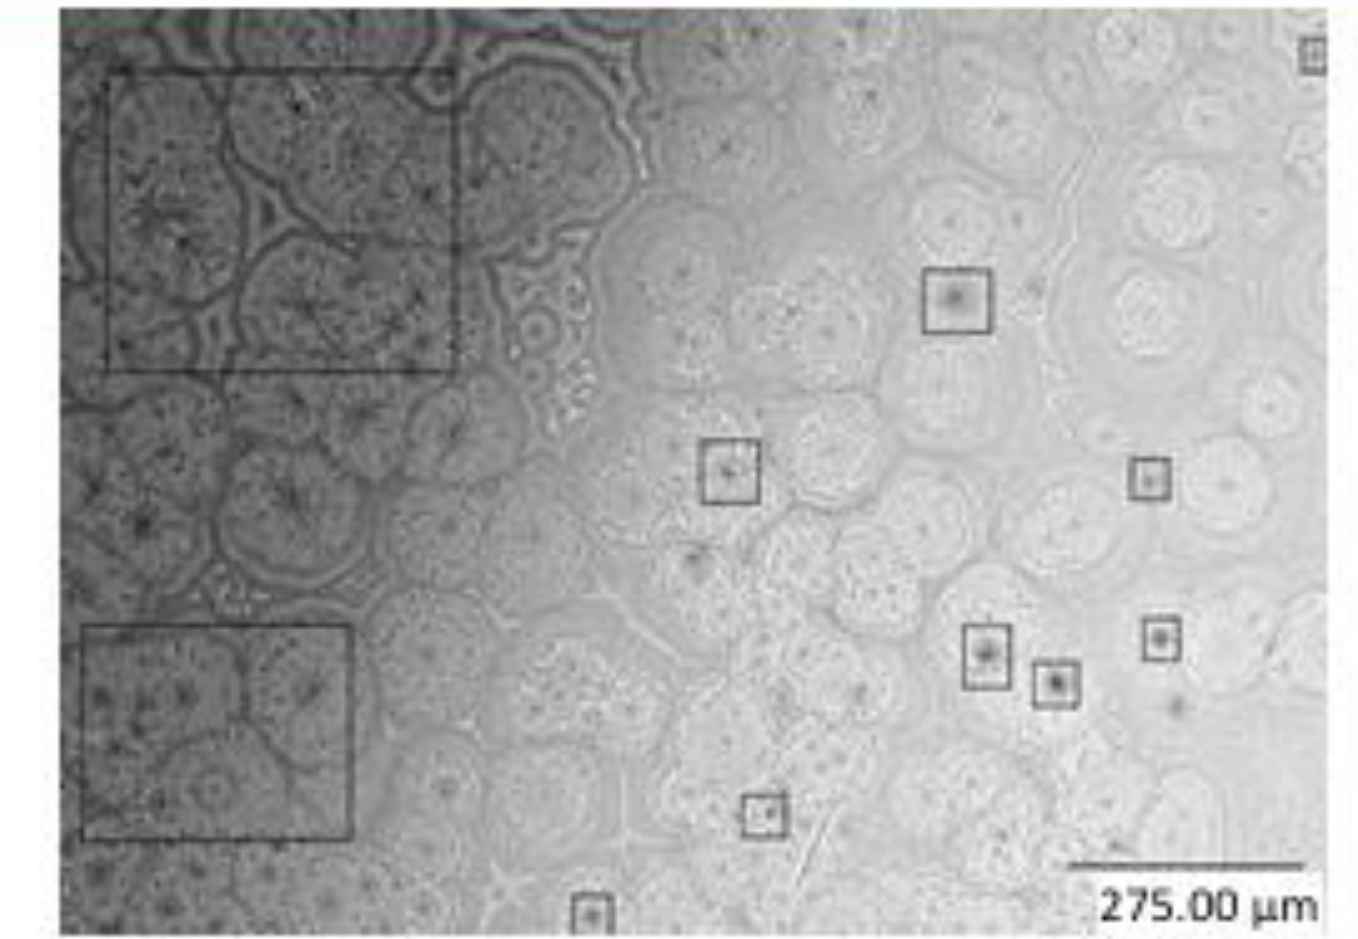

Figure 2
3. In figure 2 & 3, The code is able to identify the pinhole but not the grain boundaries and scratches.